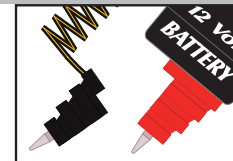

Fig. 1: NEG Removable Probe
2. Remove the black (- NEG) probe from the tester (Fig. 1).
2. Remove the black negative (- NEG) prove from the tester (Fig. 1).